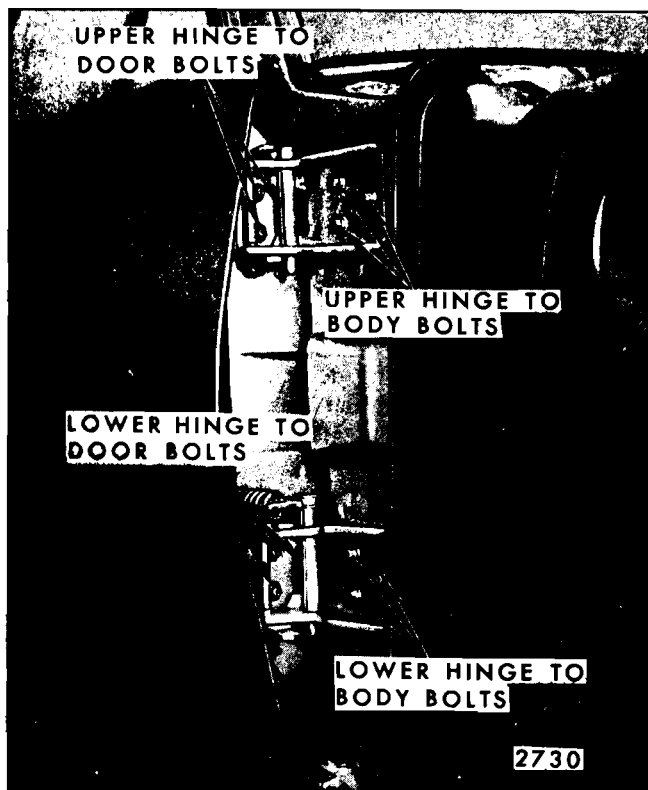

Fig. 6-59—Typical Front Door Hinge Attachment
The front door is mounted to the front body hinge pillar with an upper and lower hinge. Figure 6-59 illustrates typical front door hinge installation. On "E" styles, the hinges are the "swing-out" type, which means that the leading edge of the door swings outboard of the front fender when the door is opened. All other styles use "swing-in" type hinges, which means the leading edge of the door swings inboard of the front fender when opened.
1. If both hinges are to be removed, remove front door as previously described. Mark position of hinge on body hinge pillar and remove hinge to body hinge pillar attaching bolts (Figure 6-59).
2. With the aid of a helper to support door, remove upper and lower hinge to door attaching bolts (Figure 6-59) and remove door from body.